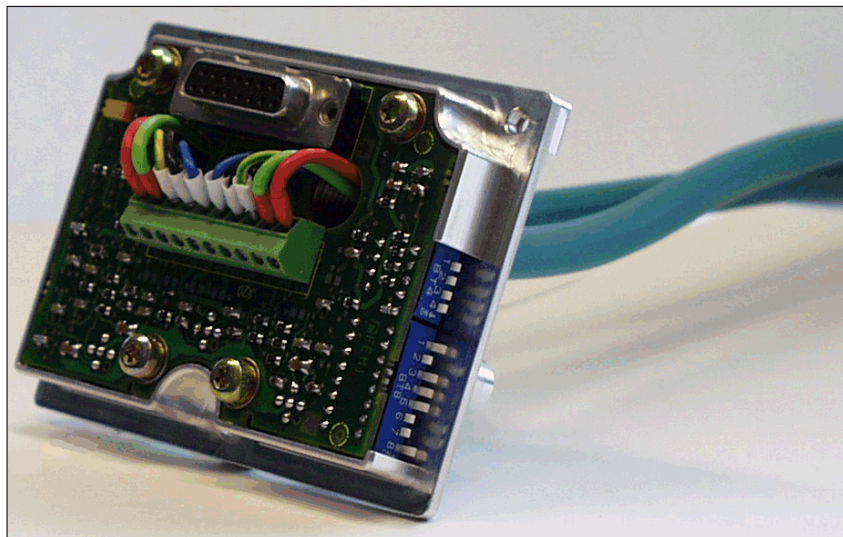

Fig. 2-31 PROFIBUS unit which has been connected up: Rear view
- Rear side → refer to Fig. 2-31